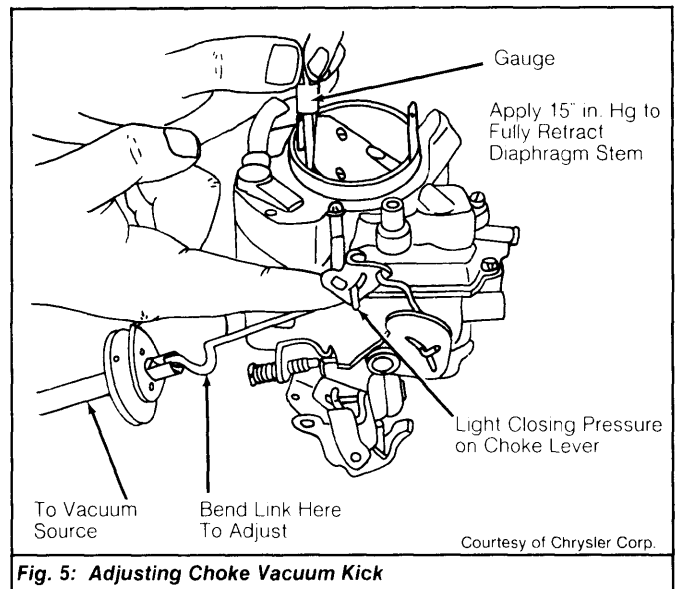

Fig. 5: Adjusting Choke Vacuum Kick
- 1) On Chrysler Corp. models, open throttle then close throttle. Release throttle to trap fast idle cam at closed throttle position. See Fig. 5.